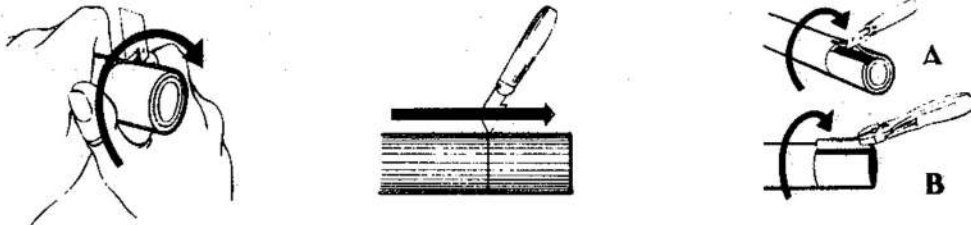

Fig.11 Outer cover removal
(1) Prepare the hose (fig. 11) by stripping part of the outer cover. Using the notch on the socket as a guide to the amount to be stripped cut the outer cover and prise off as shown in fig. 11. The cover removal is eased by ensuring that the cuts are made down to the wire braid.
(2) Clean the end of the outer cover and the exposed wire braid to remove any adhering particles of rubber. A soft wire brush may be used but care must be taken so that the braid is not loosened, flared or frayed. Finally clean using trichloroethane.
(3) Apply a uniform layer of sealant to the end of the outer cover, to the exposed wire braid and to the hose end of the socket. Sealant type PRC 1422BT2 is used on hoses Pt No 309 and 611.